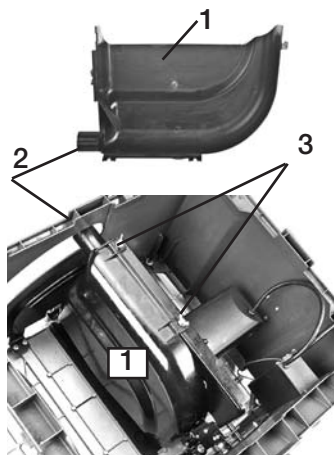

FIG 20
SAWDUST COLLECTION (FIG 20)
This table saw is equipped with a removable sawdust collector (1). See FIG 20. A dust collection system can be attached to the dust port (2) to help remove sawdust from the work area.